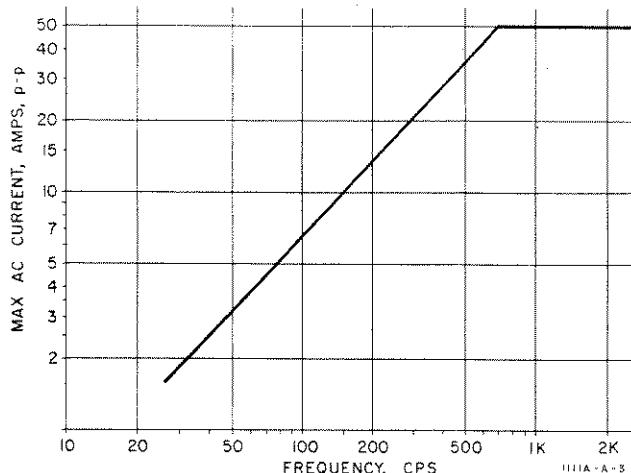

Figure 3-2. Peak-to-Peak Current vs Frequency
**3-11. PEAK CURRENT.** The maximum peak-to-peak current which the probe and amplifier will accept is a function of frequency. Figure 3-2 shows a plot of peak-to-peak current vs frequency.